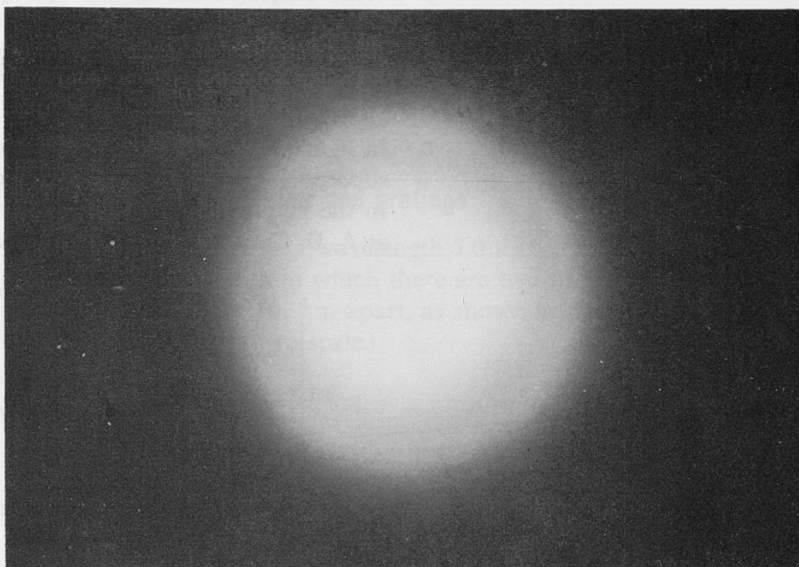

Figure J124
- d Figures J124 and J125 show the diffraction patterns produced from unstretched and stretched rubber. Compare the photographs; what do they suggest about the difference in molecular arrangement between the two examples?